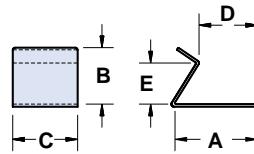
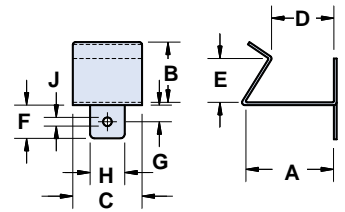

Figure 2
Figure 3
- Figure 2 and Figure 3 clips are **0.5mm (.020")** high carbon steel with a zinc electroplate finish.